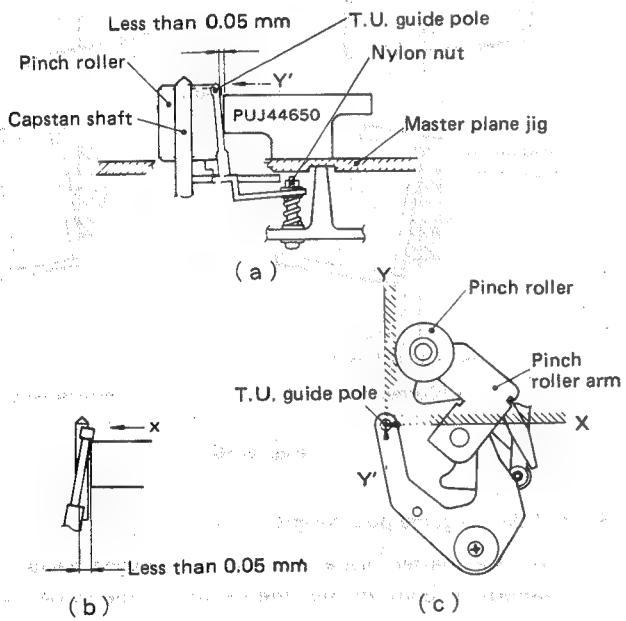

Fig. 2-32 Take-up guide pole perpendicularity
- Set the master plane jig. Use the height gauge (PUJ-44650) to measure at the two orthogonal places (X-Y') as shown in Fig. 2-32 (c).
- To measure at the Y' place, check that the perpendicularity degree between the take-up guide pole and height gauge is less than 0.05 mm as shown in Fig. 2-32 (a).
- In the same manner, check at the X place as shown in Fig. 2-32 (b).
- Perform the following check after completing steps 2 and 3. Check that tilt of take-up guide pole is less than 0.05 mm in both X and Y directions (shaded position) as shown in Fig. 2-32 (c).